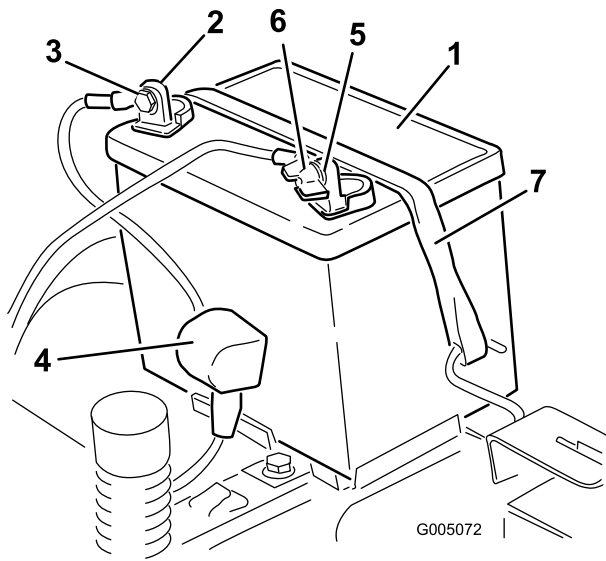

Figure 44
4. Disconnect the negative (black) ground cable from the battery post (Figure 44). Retain all fasteners.
5. Slide the rubber cover up the positive (red) cable. Disconnect the positive (red) cable from the battery post (Figure 44). Retain all fasteners.
6. Remove the battery hold-down (Figure 44) and lift the battery from the battery tray.